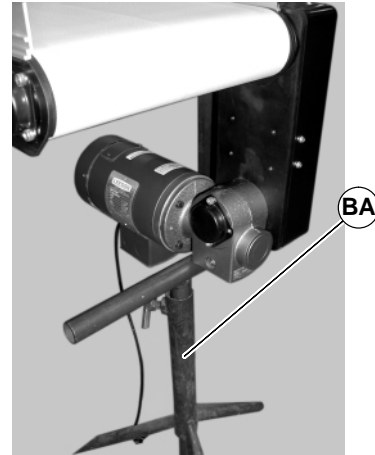

Figure 39
- 1) Use a temporary support (BA of Figure 39) to support Gearmotor.